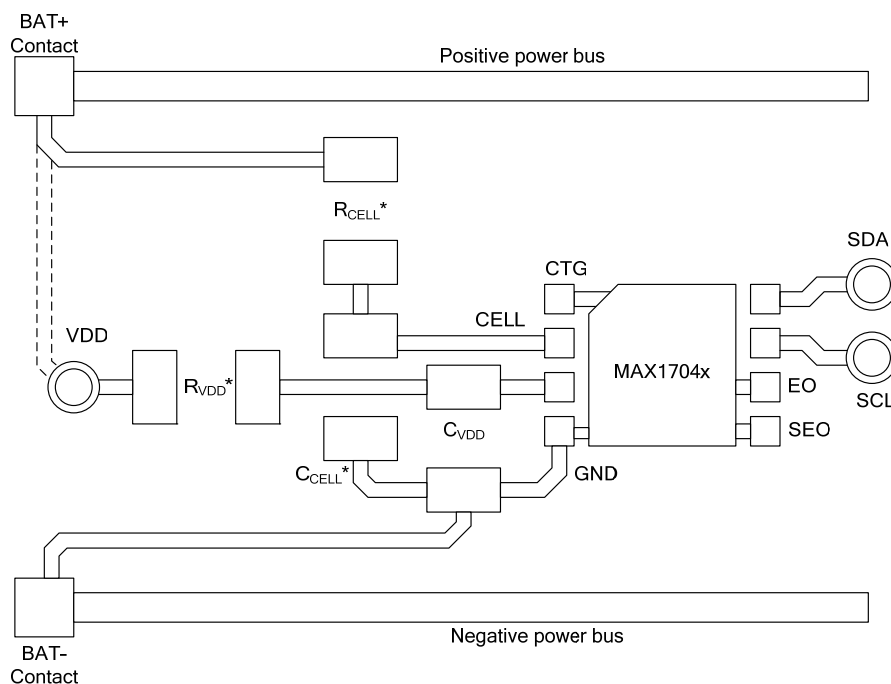
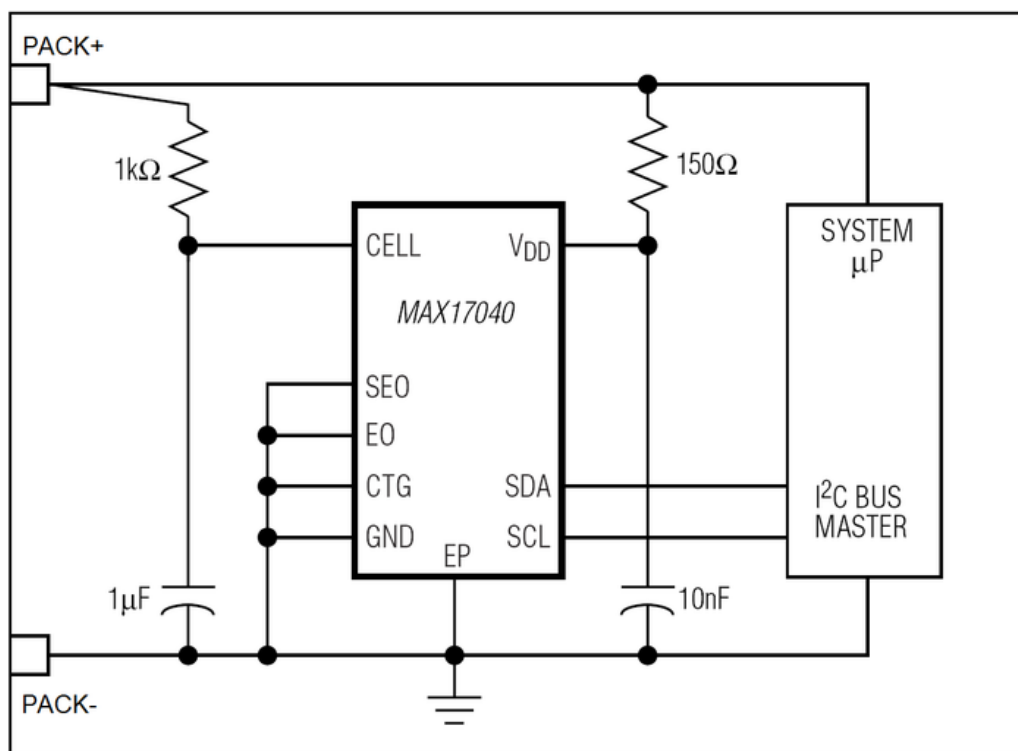

Figure 28. Example layout of critical paths
Figure 29. Circuit used for layout example
1. Mount the VDD pin and CELL* pin capacitors as close as possible to the IC. Minimize the loop area of the traces between the IC and the decoupling capacitors. The capacitors are labeled C_{CELL} and C_{VDD} in *Figure 28*.
2. For maximum voltage measurement accuracy, the CELL and GND traces of the MAX1704x circuit should contact the power planes as close as possible to the battery/battery contacts. In *Figure 28*, CELL and GND traces connect directly at the positive and negative battery tabs.
3. The MAX1704x device's exposed pad should be grounded. In *Figure 28*, the exposed pad is used to connect together all other IC pins that are grounded.
Figure 28 shows a sample layout using the list rules and *Figure 29* is the reference circuit used for this layout.